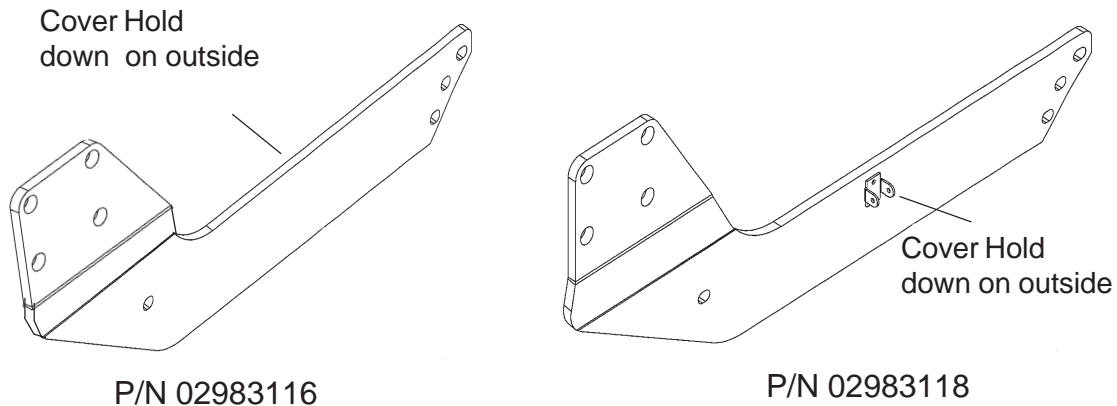
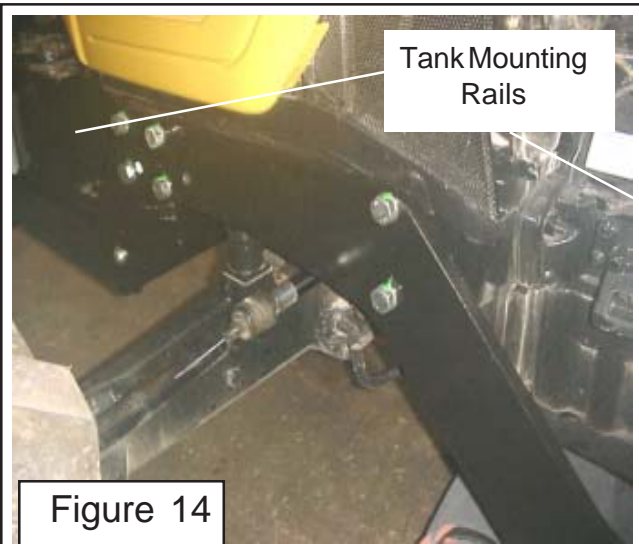

Figure 13
Figure 14
1. Install Tank Rail Weldments. P/N 02983116 LH and P/N 02983118 RH. These will bolt on using the holes to the front of the tractor bolster on each side.. This will need to be done so the hydraulic tank can be mounted (See Figure 13 & 14).
Do Not tighten the bolts at this time, leave them a bit loose it will help in installing hydraulic tank and bumper weldment later. NOTE: There is a left hand and a right hand weldment, the best way to determine which is LH and RH is the welded on mount for the rubber hold down. These rubber hold downs will always be to the outside (See Figure 13)
6. Install Power beyond End Cap. Make certain all the O-Rings are in the proper location, if you need to hold an o-ring in place use petroleum jelly (vaseline) to coat the o-ring. A light coat of petroleum jelly will hold o-ring in place and will not contaminate hydraulic oil (See Figure 13). Lower end cap down over the tie rod bolts carefully (See Figure 14), the end cap will only fit one way. **IMPORTANT INFORMATION!** Start the nuts onto the tie rod bolts and tighten them until they touch the valve end cap only, DO NOT tighten beyond that point as damage to the valve could occur. SEE STEP 7 for proper valve tightening sequence.